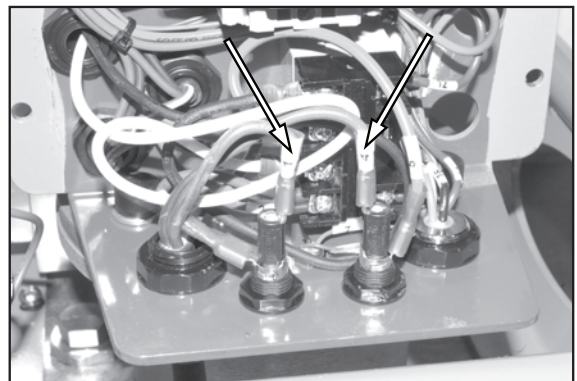

Figure 18.
3. See Figure 18. Disconnect the two power wires.